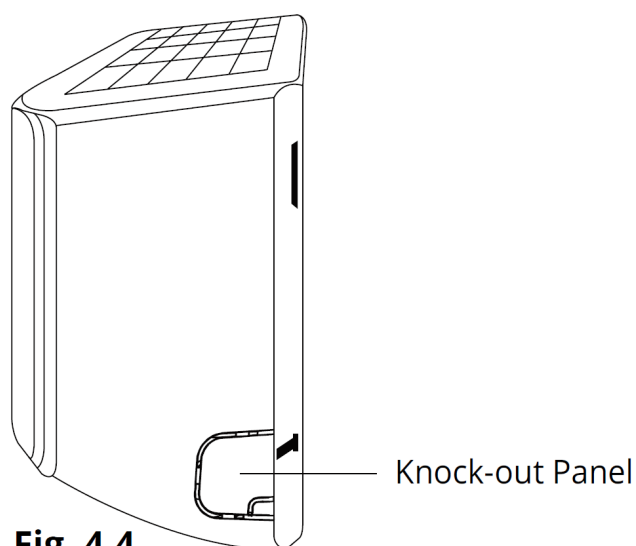

Fig. 4.4
2. If the wall hole is behind the unit, keep the knock-out panel in place. If the wall hole is to the side of the indoor unit, remove the plastic knock-out panel from that side of the unit. (See Fig. 4.4). This will create a slot through which your piping can exit the unit. Use needle nose pliers if the plastic panel is too difficult to remove by hand.